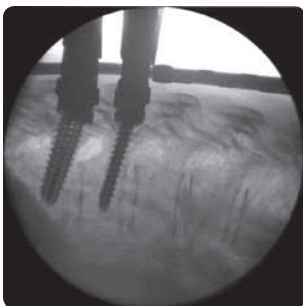

Figure 48a
*The Inserters can pass through the first Extender. It is important to confirm with fluoroscopy that only the Rod passed through the Extender. A sliver of rod should be visible on fluoroscopy between the Extender and the bulbous tip of the Inserters (Figures 48a, 48b, 48c, and 48d).*